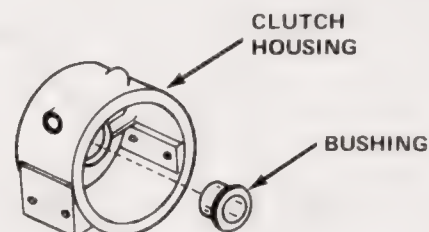

Fig. 5-28 Installing Clutch Housing Bushing
(3) Press new clutch housing bushing into housing (fig. 5-28). Be sure bushing is pressed into housing straight and is flush with inside boss.